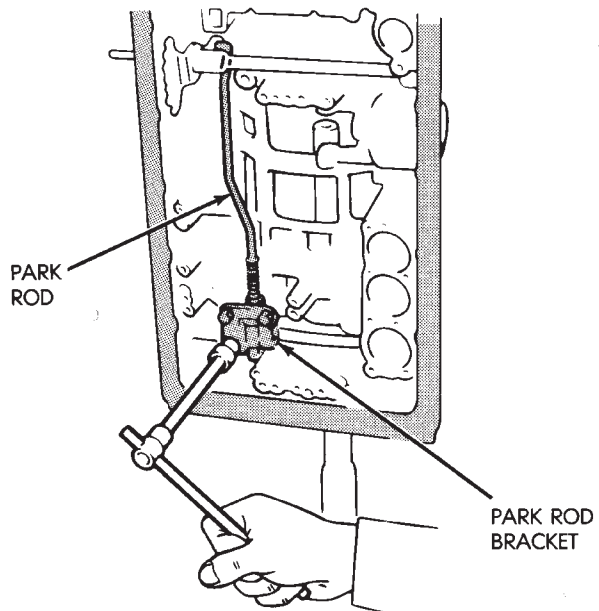

Fig. 20 Removing/Installing Park Rod Bracket
- (1) Remove park/neutral position switch and disconnect transmission shift lever.
- (2) Remove oil pan and valve body.
- (3) Remove bolts attaching park rod bracket to case (Fig. 20).